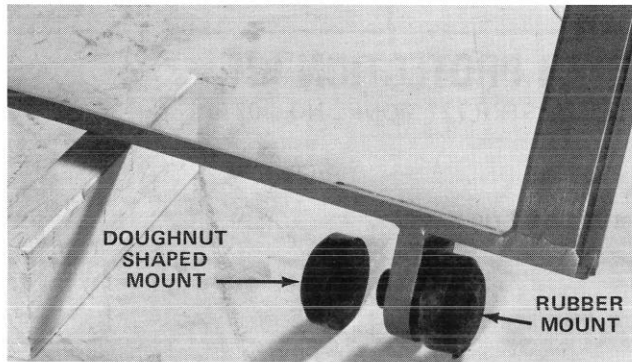

Figure 2
3. Slide rubber mounts through four brackets on bottom of roll cage; then push doughnut-shaped mount onto rubber mount (Fig. 2).